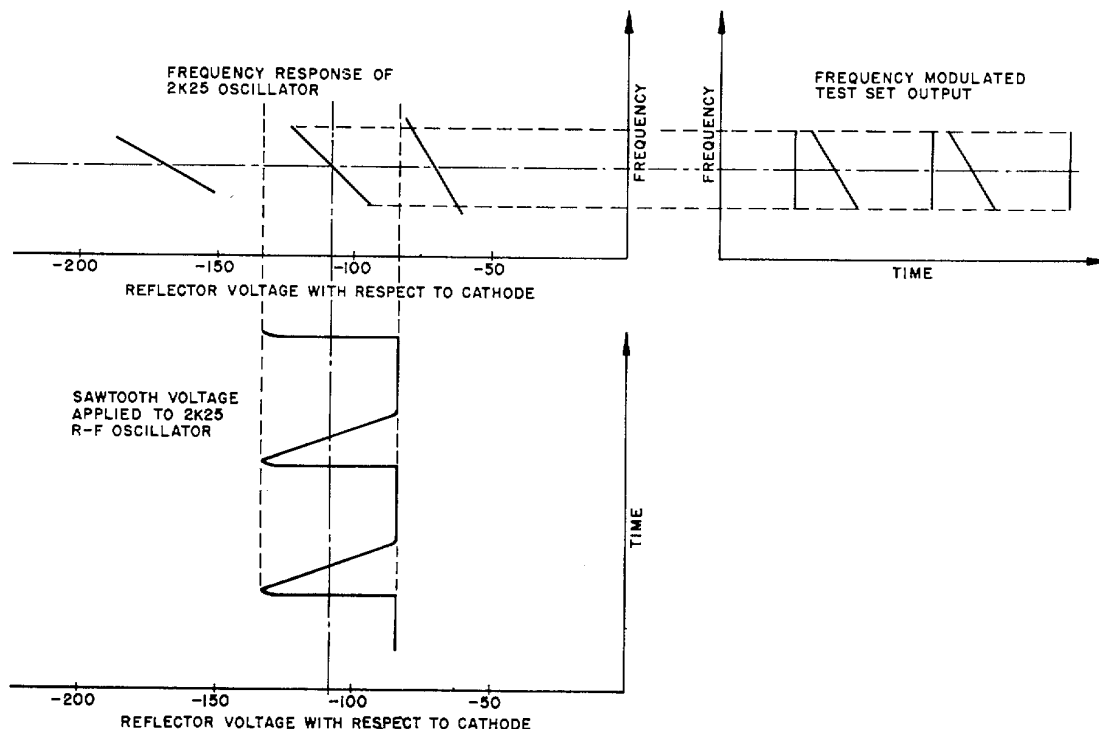

Figure 2-22. Test Oscillator Modulation
(5) Figure 2-22 shows how the frequency of the oscillator tube is modulated by varying the reflector voltage. If the sawtooth voltage is applied to the reflector about the center value of 110 volts (DC level) as shown, the frequency of the oscillator will be swept through one or more modes and the output will be frequency modulated. The number of modes covered depends upon the amplitude of the sawtooth. This is determined by the setting of the SIGNAL WIDTH control.